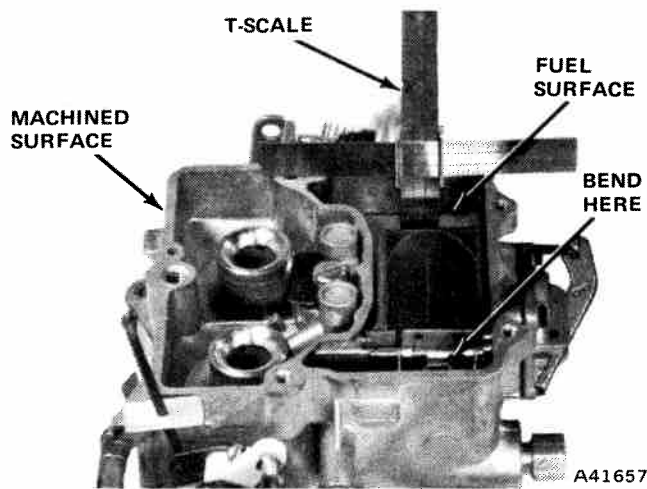

Fig. 4-48 Wet Float Level Adjustment
(3) While the engine is idling, use a T-scale to measure the vertical distance from the top machined surface of the carburetor main body to the level of the fuel in the fuel bowl (fig. 4-48). The measurement must be at least 1/4 inch away from any vertical surface to assure an accurate reading, because the surface of the fuel is concave (higher at the edges than in the center). Care must be exercised to measure the fuel level at the point of contact with the float with the fuel (refer to Carburetor Service Specifications for the correct fuel level (wer) setting).